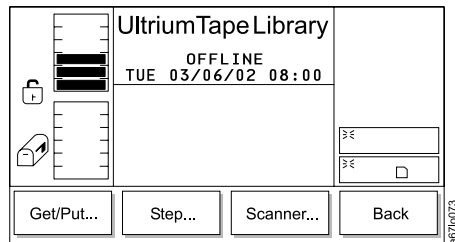

Figure 292. Fingers Submenu
5. Press the button below the **Fingers** softkey. The Fingers Submenu displays (see Figure 292).